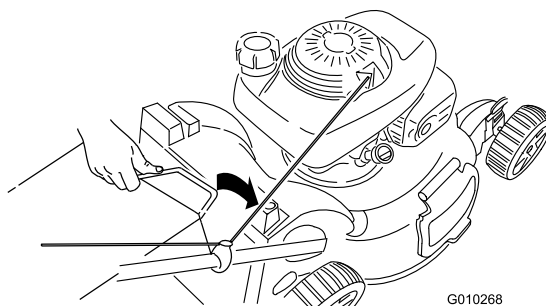

Figure 27
3. Insert the grass bag handle into the grooves at the top of the mower (Figure 27).